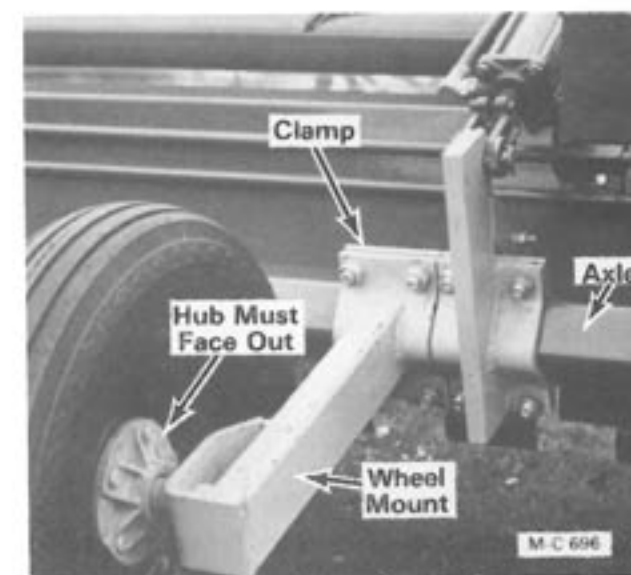

Figure 4
3. Install the wheel mounts and wheels on the axle at the desired spacing (see note). Right and left axle hubs must face out, see Figure 4. Secure each wheel mount clamp with four 3/4"-10 x 2 1/2" (Grade 5) hex-head capscrews, lockwashers and nuts.